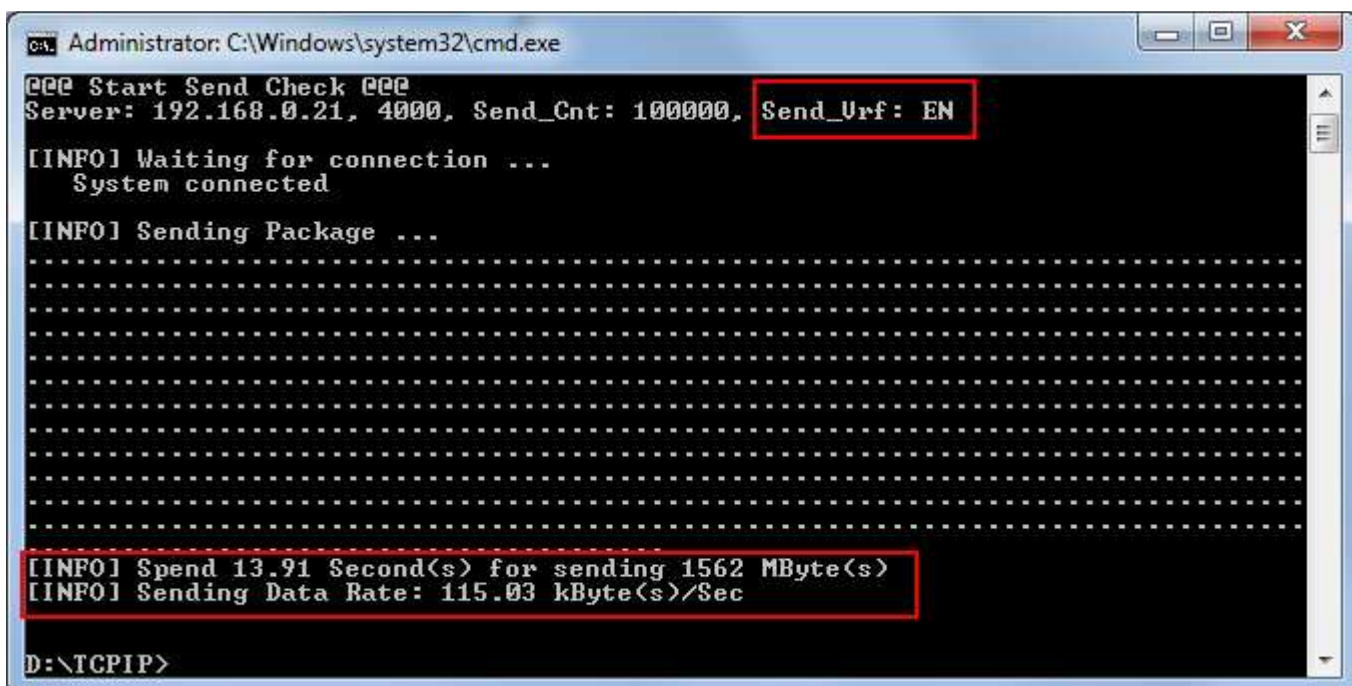

Figure 15 Receiving Demo on Verification mode
- Test application displays “...” during transferring packet and time usage with performance will be displayed when complete data transfer, as shown in Figure 15.